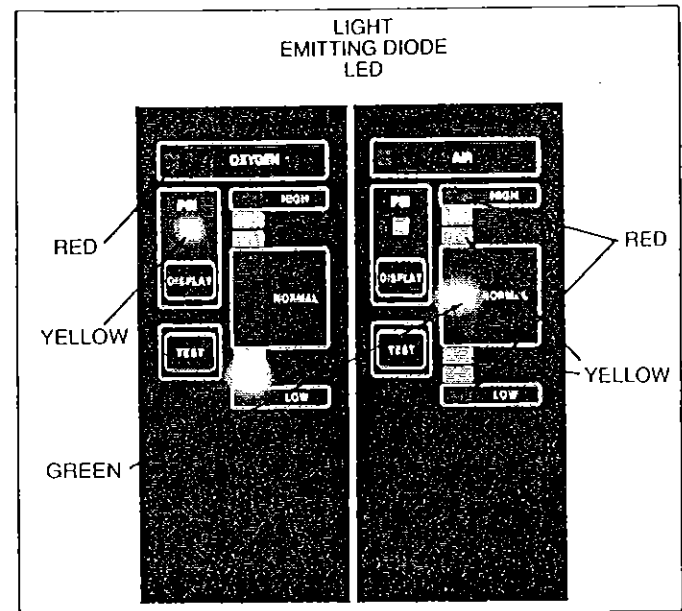
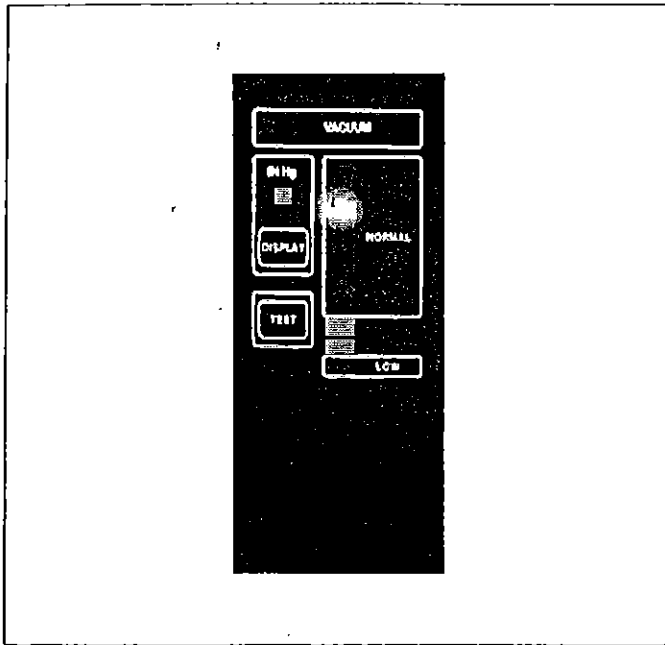

FIG. 3 — PRESSURE MODULE
FIG. 4 — VACUUM MODULE
There are two types of line pressure modules — for pressure gases (See Fig. 3) and vacuum. (See Fig. 4) All pressure gases utilize the line pressure module containing both high and low limits. The line pressure module for vacuum contains only a low limit. Both types of line pressure modules contain a vertical display consisting of light emitting diodes (LED), a test button, a display button to activate the LCD module, a yellow indicator light near the display button to signify which module is in display and a red indicator light to signify an alarm state.
1. The *Line Pressure Module* (See Fig. 3) contains an eleven step bar of LED's that is calibrated to display pressure or vacuum in the range to be monitored. Light will move up and down the LED as the pressure being monitored increases or decreases. During normal operation the LED will remain in the green "normal" area. As the pressure changes toward an alarm condition the light will change from green to yellow and ultimately to the red "alarm" condition. The alarm condition signifies a $\pm 20\%$ variation in the line pressure, or -20% for vacuum.
6. Display & Timed Sequence — Pushing the display button (See Fig. 3) when another module is in *alarm* or *test* will NOT cause the module commanded to go into a display mode until the test function or alarm condition has timed out on the internal circuitry. It is normal to wait a few seconds for the requested module to come into display.
7. Test — The test function is provided on each module to exercise the electronic circuitry that monitors the gas or vacuum pressure. It further tests all LED, LCD, and audio functions of the alarm module. Pressing the test button (See Fig. 3) will cause a simulated failure to take place. The LED will initially move up or down, but not both. If the test cycle initially displayed a high alarm condition, depress the test button after the unit has returned to normal in order to test the low function.